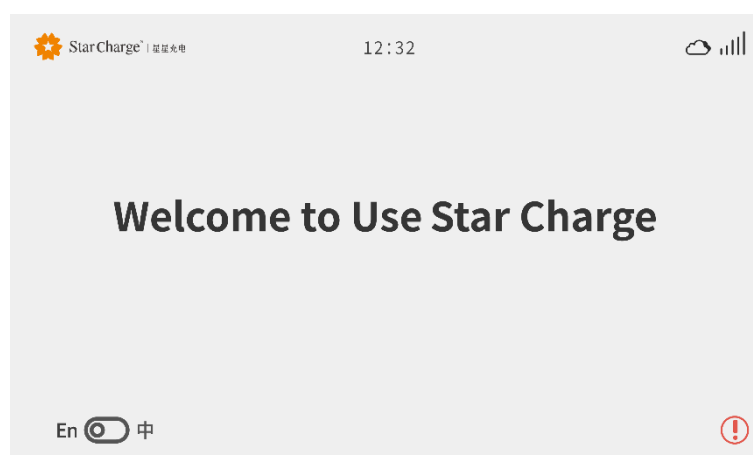

Figure 3-10 Main charging interface
Step 1 Click anywhere on the main interface of the touch screen to enter the next step, as shown in Figure 3-10.